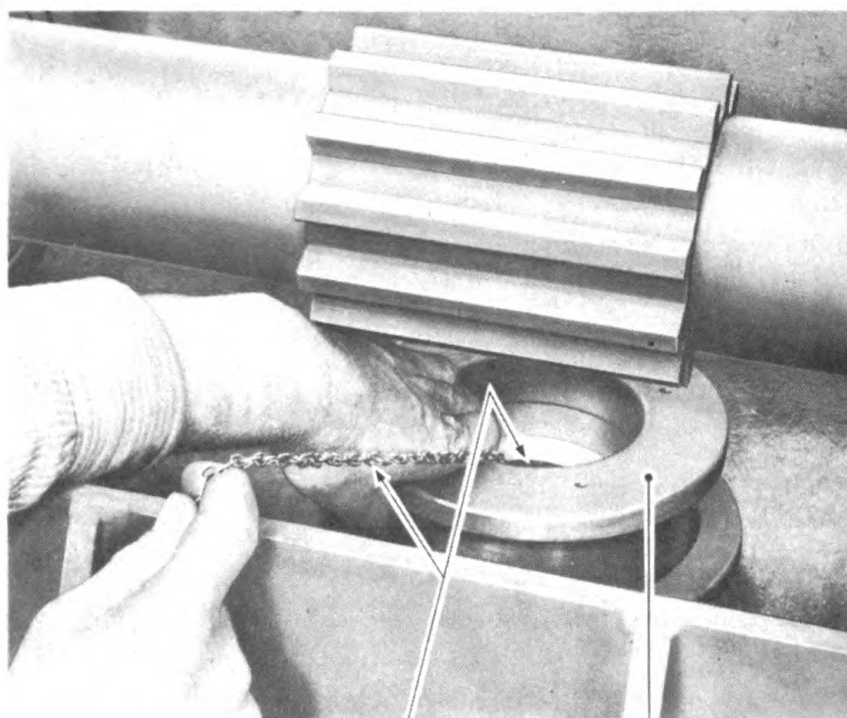

Figure 50—Placing Pintle Remover Upper Plug in Position
h. Insert the pintle remover upper plug A189897 (fig. 21) in position in pintle. Insert from top of pintle, reach in, and position plug. Hold plug in position with chain (fig. 50). Run screw of pintle remover up into cupped portion of upper plug.